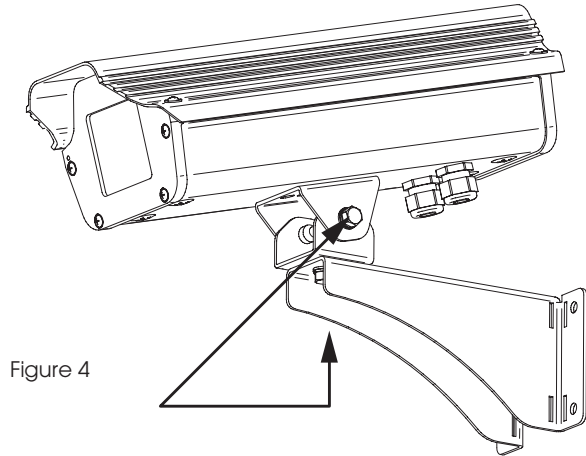

Figure 4
4. Insert the 5/16-18 x 3/4" bolts into the holes and tighten bolts to prevent housing movement (see Figure 4).